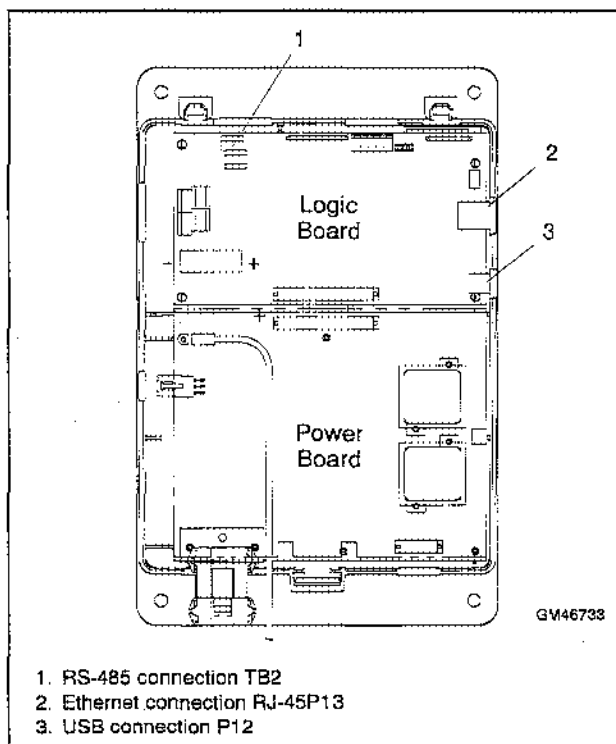

Figure 7-1 Communication Connections (controller cover removed for illustration only)
See Figure 7-1 for the connector locations.
Use serial connections to TB2 on the controller's logic board to connect the transfer switch to a personal computer, the optional ATS remote annunciator, or a Modbus network. System monitoring and control using Kohler® Monitor III software requires serial connection to a personal computer as described in this section. See Figure 7-1 for the location of TB2.
Ethernet Port. The ethernet port is a standard RJ-45 female plug on the controller's main logic board. See Figure 7-1 for the location of the Ethernet port. Use Category 5e or better cable to connect the controller to the building's network. The ethernet connection allows the controller to communicate with a personal computer on the network to run Monitor III Software or other Modbus applications.
1. Insert the USB mass storage device into the USB port on the controller's main logic board. See Figure 7-1 for the port location.